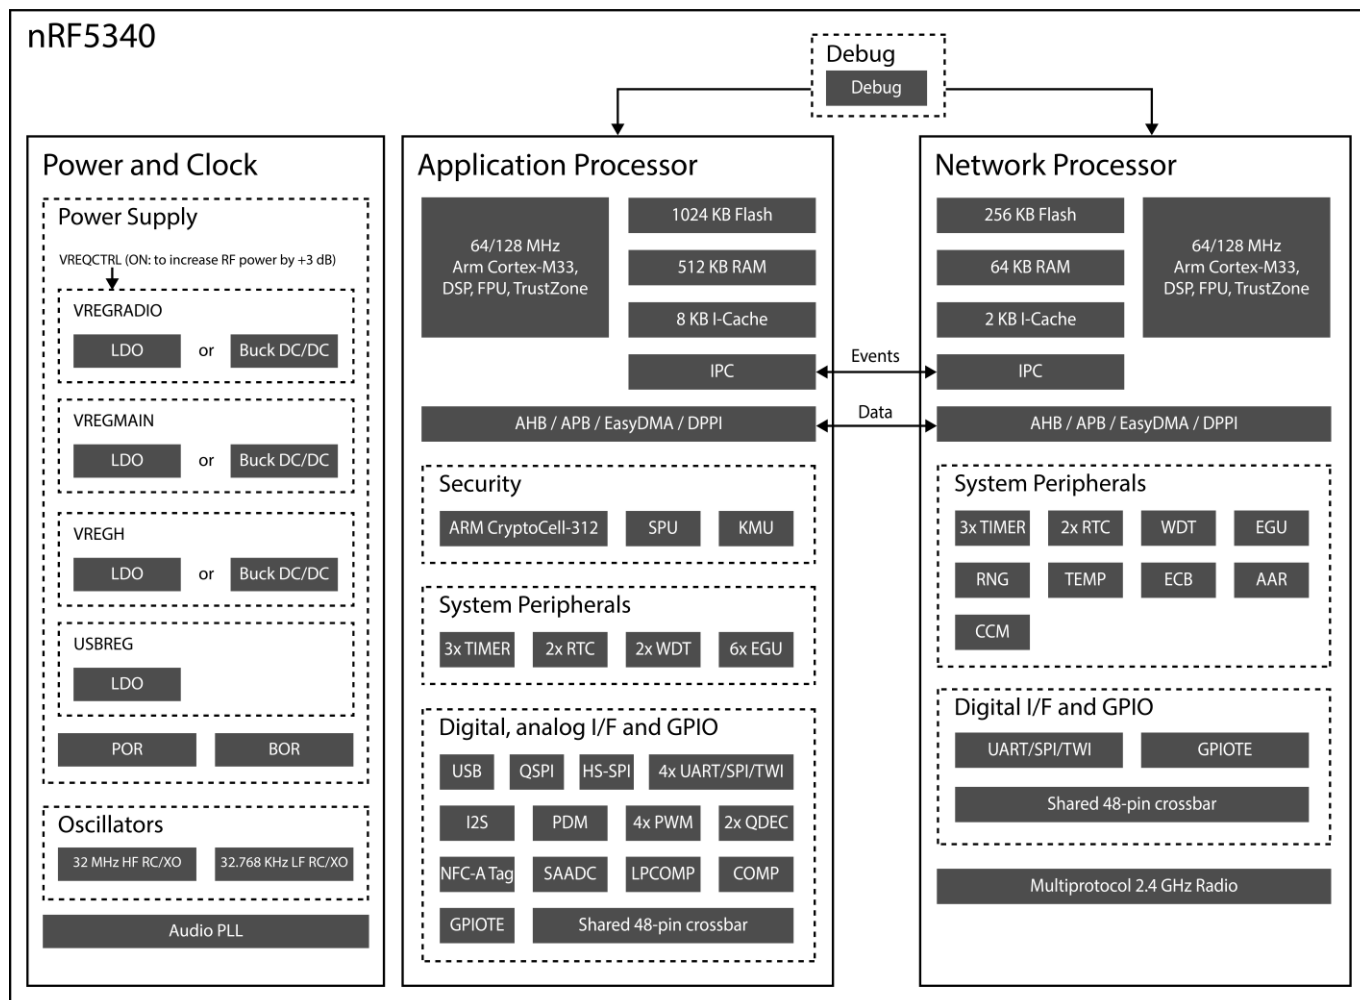

Figure 4: nRF5340 SoC SW block diagram (adapted from Nordic)
nRF5340 SoC (block diagram Figure 4) contains two processors:
- Security (Figure 4)
- System Peripherals (Figure 4)
- Digital, analog interfaces and GPIO (Figure 4)
- Digital interfaces and GPIO (Figure 4)
- Radio (Figure 4)